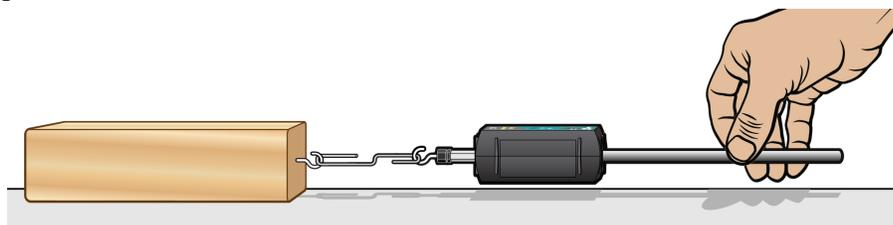

Figure 1
- Lay the Force Sensor on the tabletop in the position shown in Figure 1.